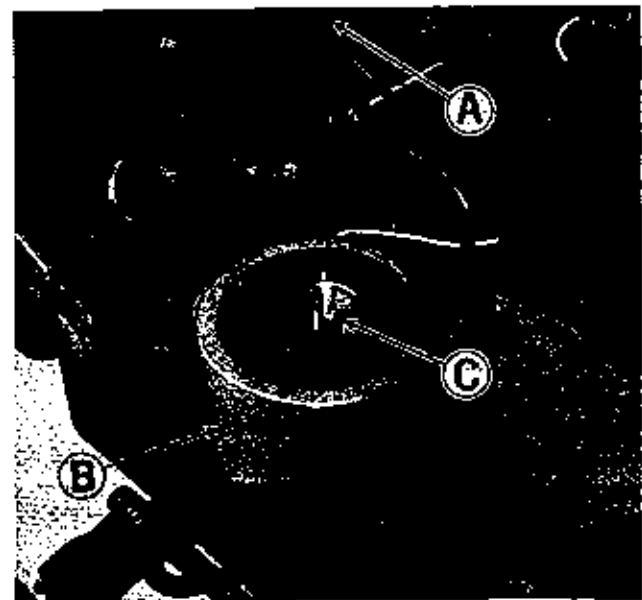

Figure 23. Air cleaner with cover removed on left side of engine.
See figure 23. All grass and chaff should be removed from the engine fins (A); **CAUTION: THE ENGINE FINS ARE VERY HOT AFTER THE ENGINE HAS BEEN OPERATED. DO NOT TOUCH THEM UNTIL THE ENGINE HAS BEEN ALLOWED TO COOL. NEVER SPRAY WATER ON A HOT ENGINE.**
2. See figure 23. Remove the foam precleaner (B) and wash it in liquid detergent and water and squeeze dry.
4. Install the foam precleaner as shown in figure 23.
The engine air cleaner is made up of two types of filters. The foam filter (Figure 23, Item B) and a dry filtering element. The foam element should be cleaned and oiled every 25 hours as explained under the Every 25 Hour Maintenance Services. Once a year or every 100 hours, whichever occurs first, the paper element should be removed and cleaned or replaced. Proceed as follows:
2. See figure 23. Remove the foam element (B) and clean and oil it as described in the Every 25 Hour Maintenance Service.
3. Remove wing nut (C) and remove the paper element from the air cleaner.
5. See figure 23. Replace the paper element and wing nut (C) and tighten it securely.
6. Install the foam element (B) over the paper element as shown in figure 23.